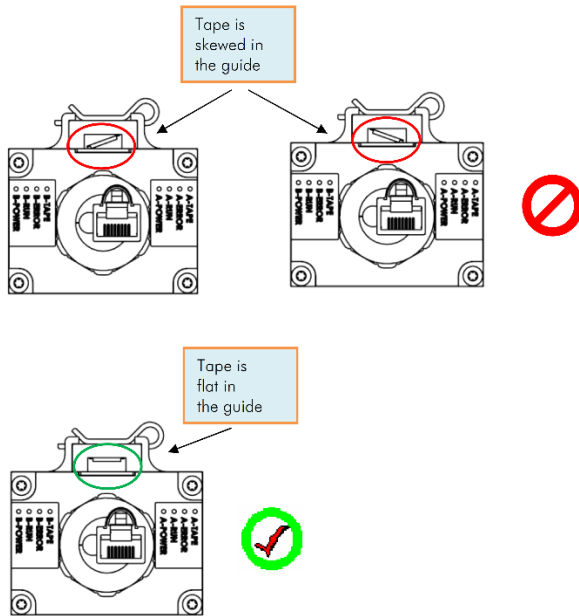
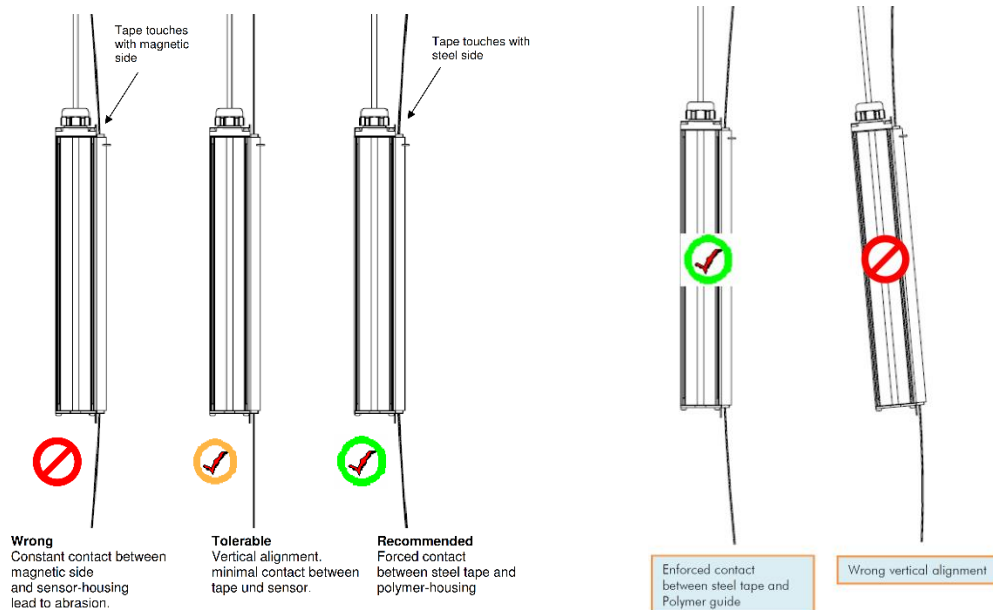

Figure 16: Angular Alignment Guideline
Figure 18: Horizontal Offset Alignment Guideline.
5. Adjust now the distance between sensor head and tape. Up to a travel height of 165ft, we recommend an offset of at least 0.6” (15mm). This will ensure steady contact between the steel side of the tape and the polymer guide of the sensor. In higher installations this distance may be increased. (See Figure 18.)
7. Check for proper alignment of tape vs. sensor. Any angular offset should be corrected. (See Figure 16-Figure 18 above.)
Run an inspection trip the entire length of the hoistway. Observe the system paying attention to the respective positions of tape and sensor. You have achieved an optimal installation if the steel side of the tape is constantly but slightly pressed against the polymer guide of the sensor. At several points in the hoistway, double-check the bottom side of the sensor head. If the sensor is tilted it may look good on top but the tape can still grind along the bottom edge of the sensor. (See Figure 18.)